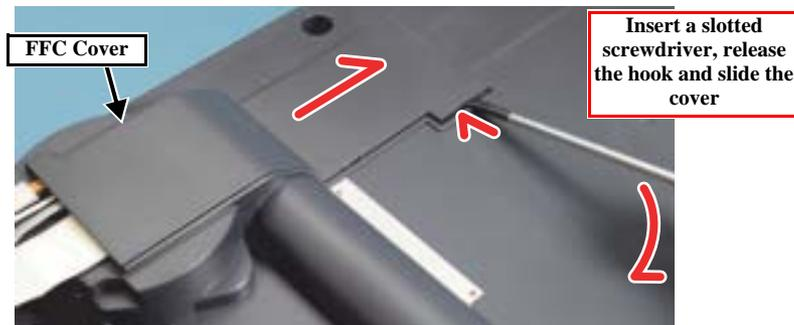

Figure 4-41. Removing the FFC Cover
2. At the rear of the Scanner Unit, insert a slotted screwdriver into the gap shown in the figure, release the hook of the FFC Cover (inside), and remove the FFC Cover by sliding it inward. (Fig. 4-41)